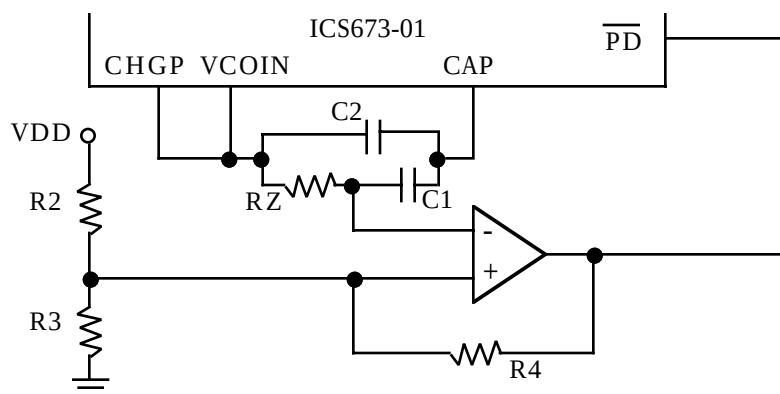

Figure 5. Using an External Comparator to Reset the VCO.
3. A comparator circuit may be used to monitor the loop filter voltage, as shown in Figure 5. This circuit will dump the charge off the loop filter by asserting  $\overline{\text{PD}}$  if the VCO begins to run too fast, and the PLL can recover. A good choice for this comparator is the National Semiconductor LMC7211BIM5X. It is low